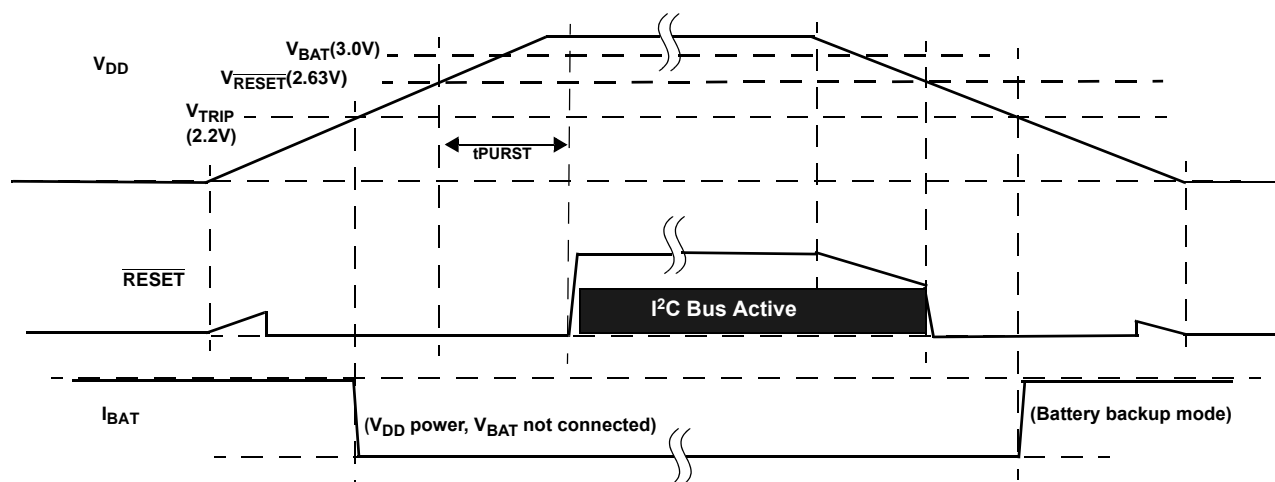

FIGURE 29. EXAMPLE RESET OPERATION IN MODE A OR C
- Mode A - In this mode selection bits indicate a low  $V_{\text{DD}}$  switchover combined with I2C operation in battery backup mode. In actuality the  $V_{\text{DD}}$  will go below  $V_{\text{RESET}}$  before switching to battery backup, which will disable I2C ANYTIME the device goes into battery backup mode. Regardless of the battery voltage, the I2C will work down to the  $V_{\text{RESET}}$  voltage. See Figure 29.
- Mode C - In this mode the selection bits indicate a low VDD switchover combined with no communications in battery backup. Operation is actually identical to Mode A with I2C communications down to VDD = VRESET, then no communications. See Figure 29.